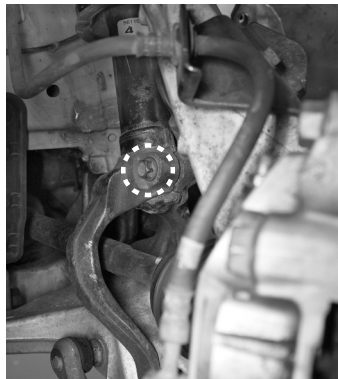

Fig. 3
2. Remove the shock's lower pinch bolt and nut. Slide the lower mount off the shock (Fig. 3).